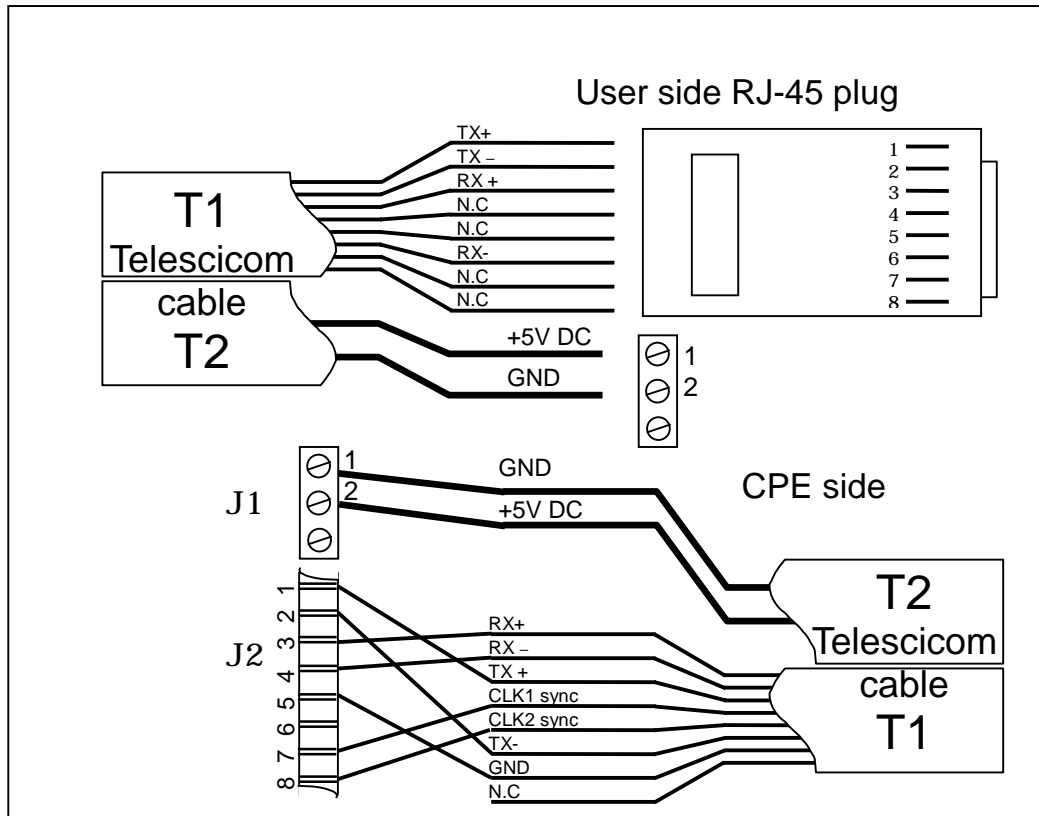

Figure 5 CPE connection wire diagram.
The CPE has one cable connection between the indoor unit and the outdoor unit . The cable consists of one pair of DC power supply cable and 4 twisted pair cables for data transmission. Figure5, page14 shows the end to end plug connectivity of this cable. Table1, page15 shows the pin connections for the CPE Outdoor Unit end of the cable. The Indoor connection should be set according to Table2, page15 and Table3, page16.
1. Attach the CPE side of the cable T2 to J2 as shown in Figure5, page14.
2. Attach the connector to the User side RJ-45 plug, as shown in Figure5, page14.